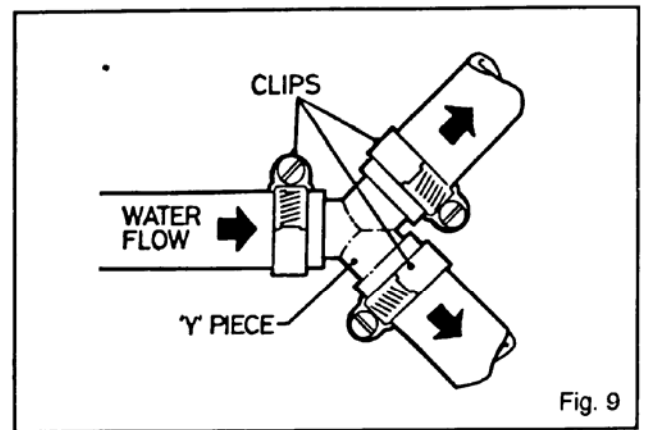

Fig. 9
**10:2** When connecting into the water supply pipes it is advisable to use a 'Y' connector as this does not reduce the flow to the same degree as a 'TEE'. (see fig.9)